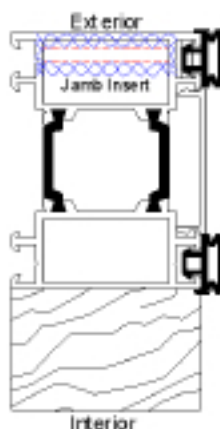

FIG 1.
- Identify the hinge jamb for stacking side and latch jamb as per figures 1 & 2.
- Caulk ends of both jambs as shown in figures 1 & 2 depicted by the blue squiggly lines & remove black jamb covers.